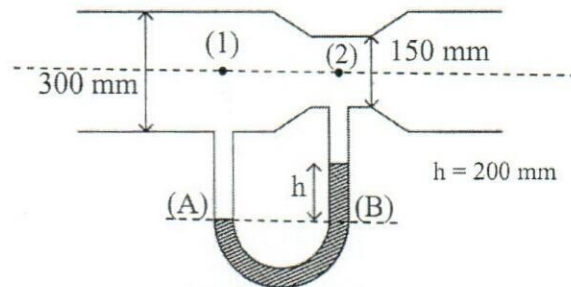

Figure 6
- Q4. i) A horizontal venturi meter is installed in a pipeline to measure water flow. The diameters at the inlet and the throat are 300 mm and 150 mm, respectively (See **Figure 6**). A differential manometer connected between these two sections shows a reading of 200 mm of mercury. Determine the discharge through the pipe. ($C_d = 0.96$)